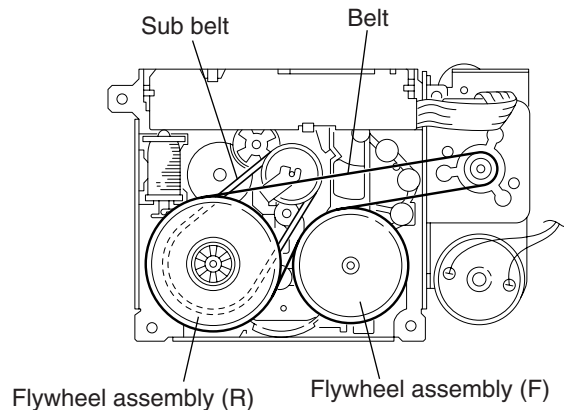

Fig.11
■Removing the flywheel assembly (F) and (R) (See Fig.11 and 12)
- Prior to performing the following procedure, remove the side bracket (L), (R), cassette hanger assembly / cassette holder.
2. Remove the polywasher from the flywheel (F) and (R) on top of the body.
3. Pull out the flywheel (F) and (R).